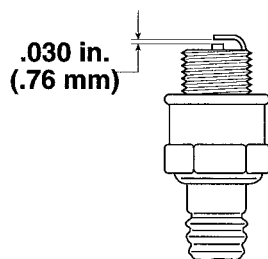

Figure 20
3. Set air gap at 0.030" (0.76 mm) (Fig. 20). Install correctly gapped spark plug and gasket seal. Tighten plug firmly to 15 ft-lb (20 N·m).